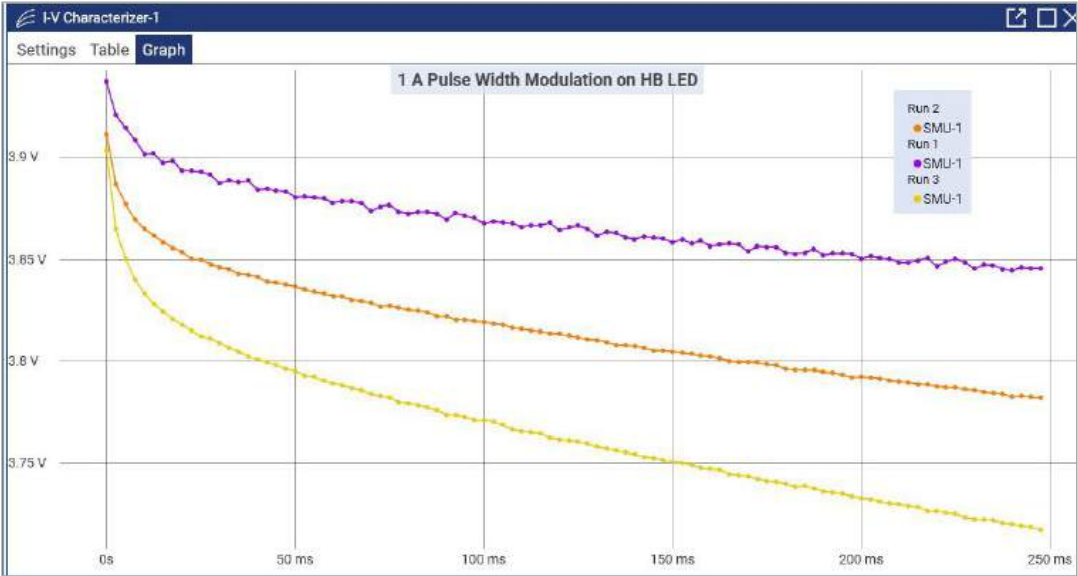

Figure 18: Pulse width modulated output data presented graphically.
18. Your final plotted output should look similar to the **Figure 18**.